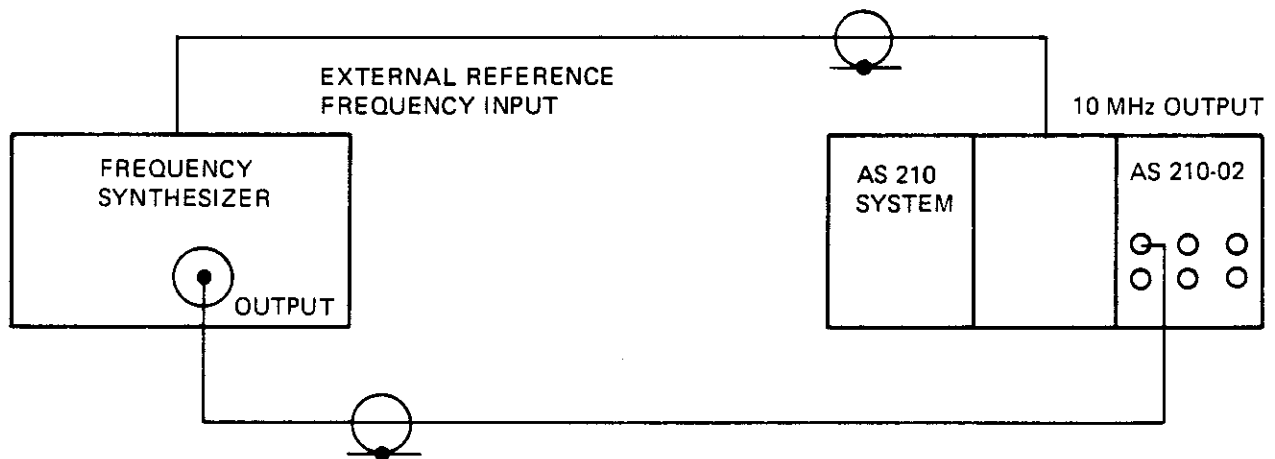

Figure 5.1 AS210-02 Frequency Comparator Input Frequency Performance Test Configuration
- C. Connect the equipment as indicated in Figure 5.1 and apply power to the AS210. The Rubidium Frequency Standard in the AS210 system will require 20 minutes warm-up time to reach the specified frequency accuracy.
- D. Connect the equipment as indicated in Figure 5.1 and apply power to the AS210. The Rubidium Frequency Standard in the AS210 system will require 20 minutes warm-up time to reach the specified frequency accuracy.
- E. With an Oscilloscope, monitor the DC level at the test point TV\* on pin (6) six of A2U21 located on Assembly A2..